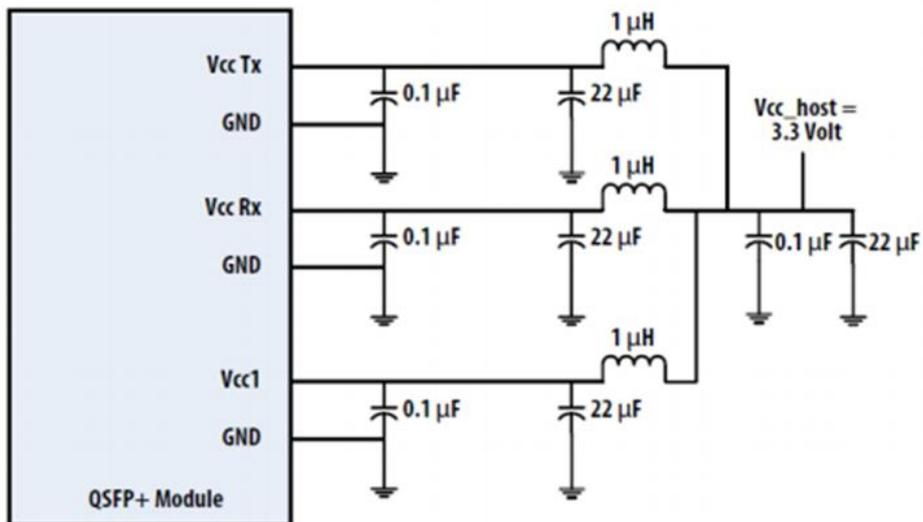

Figure4. Recommended Power Supply Filter
2. VccRx, Vcc1 and VccTx are the receiving and transmission power suppliers and shall be applied concurrently. Recommended host board power supply filtering is shown in Figure 4 below. Vcc Rx, Vcc1 and Vcc Tx may be internally connected within the module in any combination. The connector pins are each rated for a maximum current of 500mA.